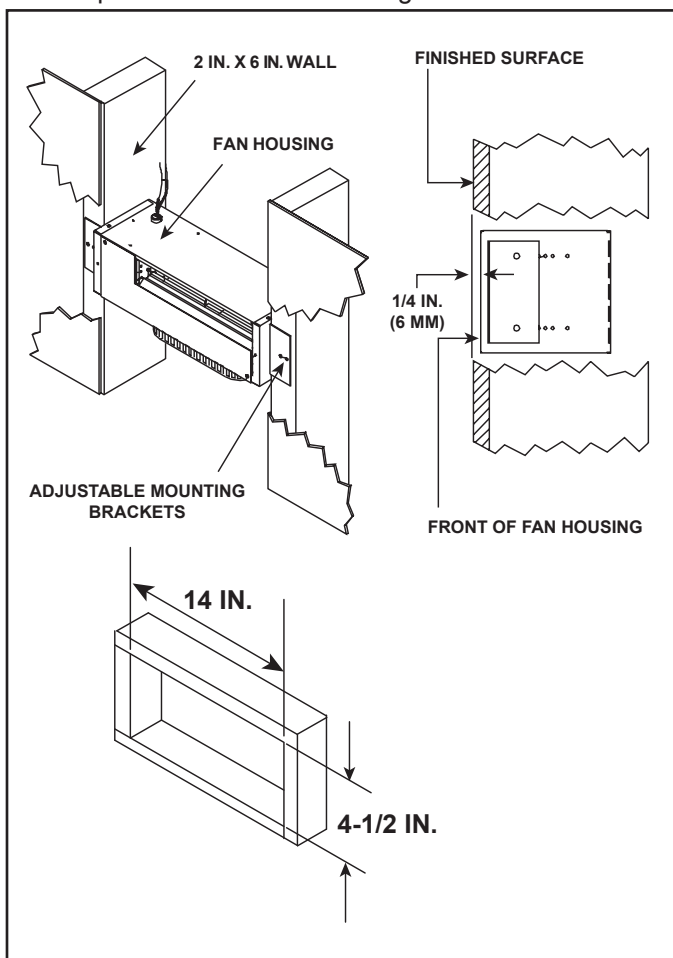

Figure 6.12 Wall Mounting (2 X 6)
- Attach round to oval adapter to fan housing with two screws. See Figure 6.12.
Mount and secure the fan housing assembly to framing members so the front surface is 1/4 -in. (6 mm) below the finished wall. Use the adjustable mounting brackets and screws provided in the kit. See Figure 6.12.